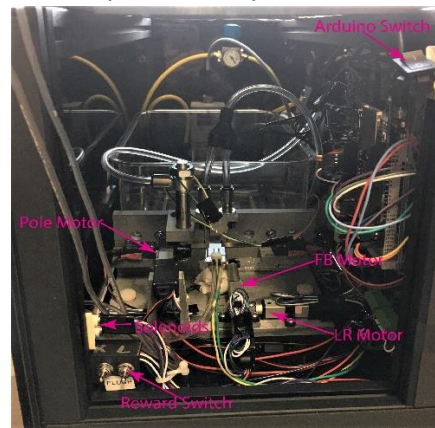

Fig.1.2
- The water reservoir, the Arduino switch, the reward switches, and the solenoids are located at the front frame of the enclosure (Fig.1.2).